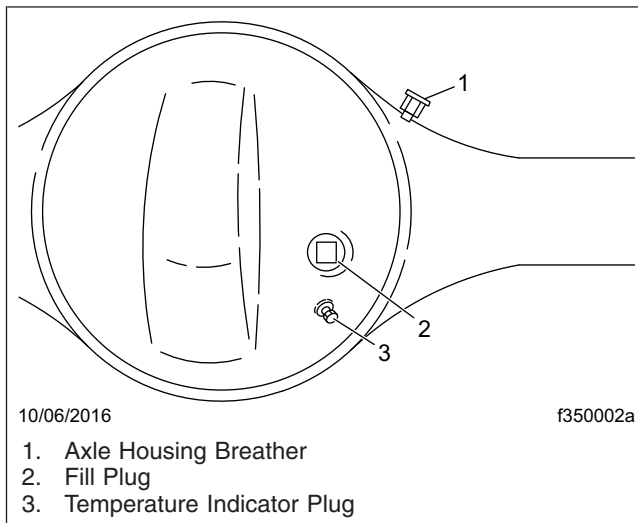

Fig. 10, Dana Spicer Axle Housing Breather
3. Clean the oil fill plug and the area surrounding it; see **Fig. 10**. Remove the plug from the fill hole (or standpipe, if installed in the oil fill hole).
6. Check the axle housing breather. Make sure that it is unclogged and free from corrosion. See **Fig. 10**. If the breather is plugged or damaged, clean or replace it as needed.